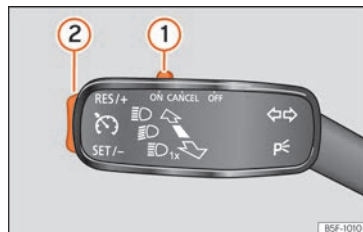

Fig. 155 On the turn signal lever: controls for operating the GRA.
- Move the control » **Fig. 155 ①** to **ON**.
- Press button » **Fig. 155 ②** in area **SET/-**.
- Move the control » **Fig. 155 ①** to **CANCEL** or step on the brake.
- Press button **»» Fig. 155 ②** in area **RES/+**.
While the GRA is set, the stored speed can be adjusted with button **»» Fig. 155 ②**:
- To increase in increments of 1 km/h (1 mph) briefly press button **»» Fig. 155 ②** in the area **RES/+**.
- To increase the speed without interruption, keep button **»» Fig. 155 ②** pressed down in the area **RES/+**.
- To reduce in increments of 1 km/h (1 mph) briefly press button **»» Fig. 155 ②** in the area **SET/-**.
- To reduce the speed without interruption, keep button **»» Fig. 155 ②** pressed down in the area **SET/-**.
- Move control **»» Fig. 155 ①** to **OFF**.